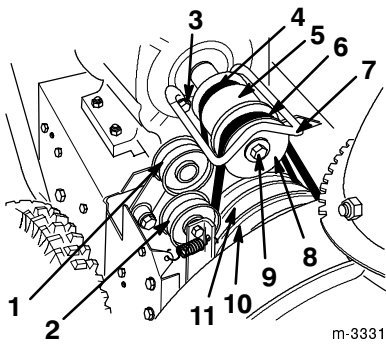

Figure 31
When the traction belt (Fig. 31) becomes worn, oil-soaked, or otherwise damaged, replace the belt. You can purchase a new belt from your Authorized Service Dealer.
- Remove two screws, two washers, and two lock washers that secure the belt guide (Fig. 31).
- Remove the engine crankshaft screw, lock washer, and washer (Fig. 31).
- Separate and remove the engine pulley sheave (Fig. 31).
- Remove the engine pulley (Fig. 31).
- Remove the traction belt from the traction pulley and the engine crankshaft (Fig. 31).
- Pull the traction idler pulley outward and install a new traction belt (Fig. 31).
- Pull the idler pulley outward and loop the auger/impeller drive belt in front of the engine pulley, making sure that the belt is on the inside of the idler pulley (Fig. 31).
When the auger/impeller drive belt (Fig. 31) becomes worn, oil-soaked, or otherwise damaged, replace the belt.
5. Remove two screws, two washers, and two lock washers that secure the belt guide (Fig. 31).
6. Remove the engine crankshaft screw, lock washer, and washer (Fig. 31).
7. Separate and remove the engine pulley sheave (Fig. 31).
8. Remove the auger/impeller drive belt (Fig. 31).
9. Pull the idler pulley outward and install a new belt around the large auger/impeller pulley (Fig. 31).
10. Loop the belt in front of the engine pulley, making sure that the belt is on the inside of the idler pulley (Fig. 31).